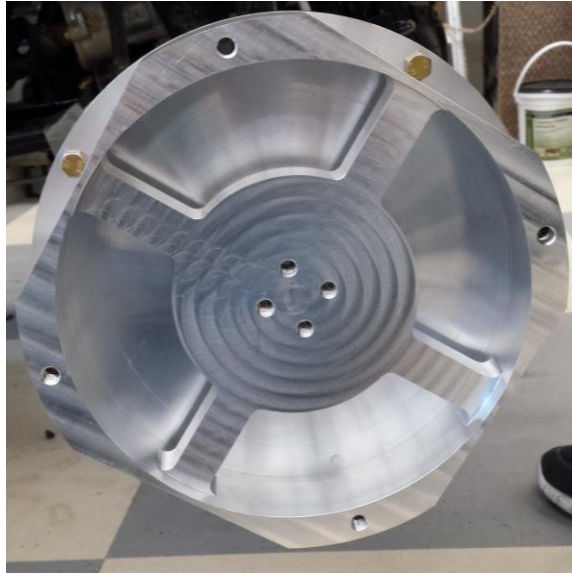

Figure 6 Cross section
6. (Figure 6) Attach hub adapter to inner plate with M10x1.25 x 60mm bolts through the back of the inner plate. Tighten bolts to 35 lbf ft with a 13 mm socket. Be careful to not strike or crush electrical components when placing and securing section. Microcontroller, circuit boards and battery should fit within blank areas of section with ample room on all sides.